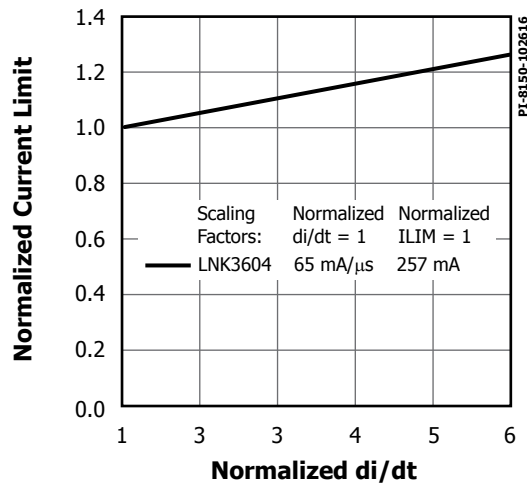

Figure 22. Default Current Limit vs. di/dt .
- For current limit at other di/dt values, refer to Figures 22, 23, 32 and 33.